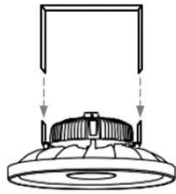

Figure 4
2. Next, attach the yoke bracket to the L-shaped yoke mounting brackets. (see Figure 4)